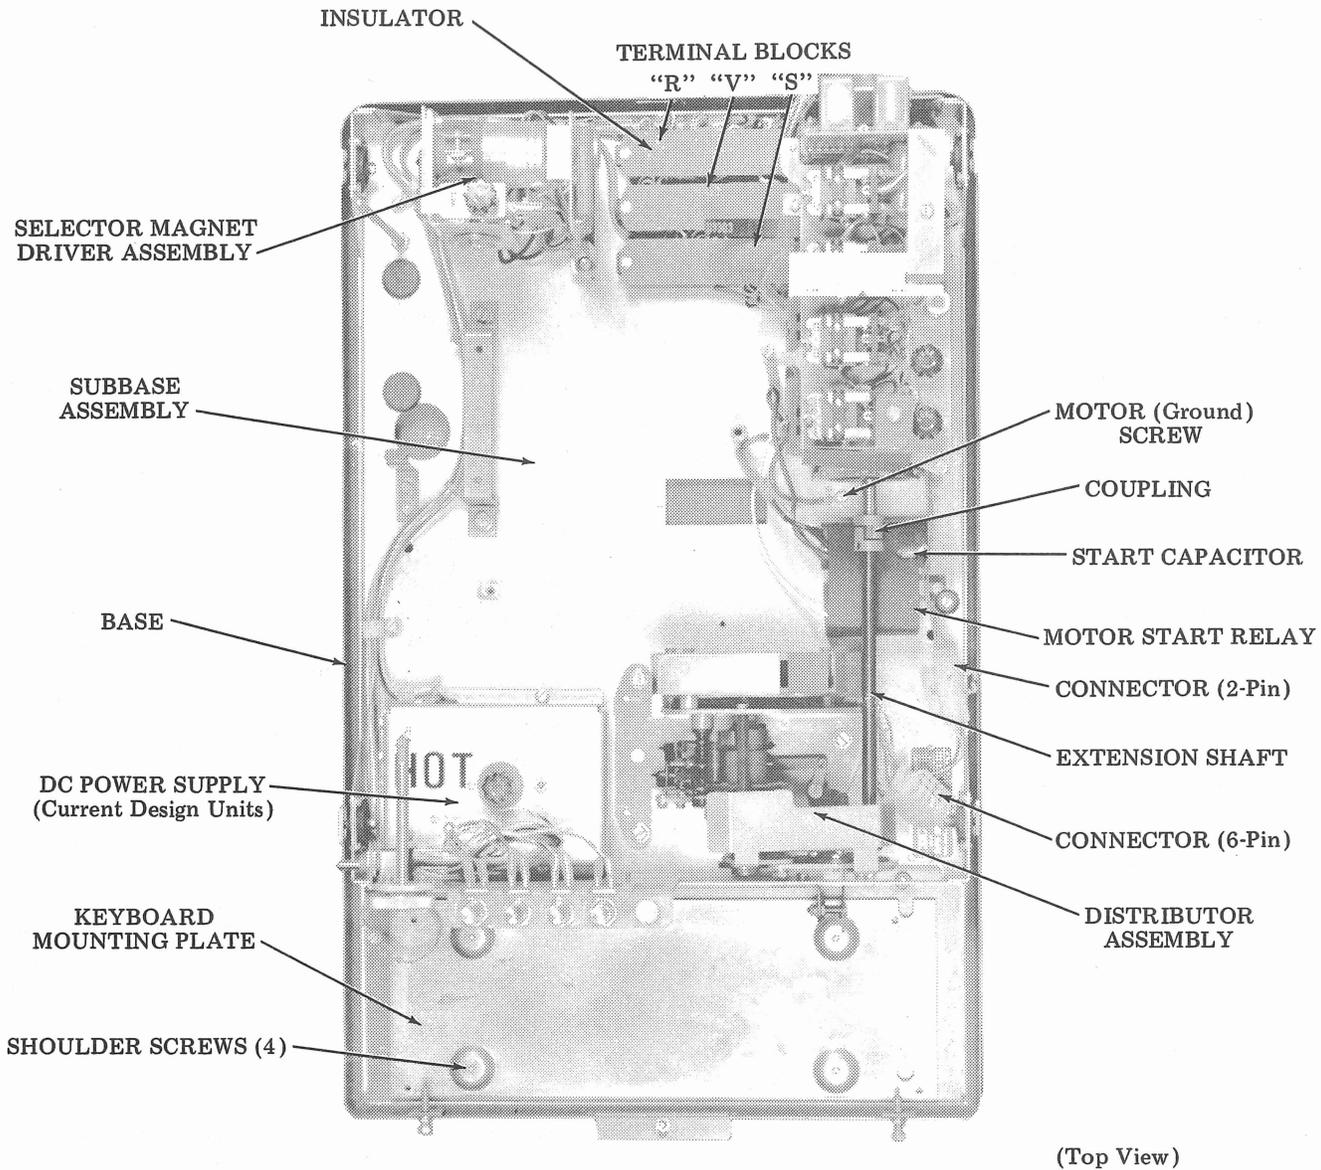

Figure 1 - 35 Edge Punched Card Typing Reperforator Set Base
1.01 This section contains instructions for the disassembly and reassembly of the basic mechanisms, subassemblies, and some parts mounted on the 35 Edge Punched Card Typing Reperforator Set Base (2A BASE — Figure 1). It is reissued to add engineering changes, replace the photographs with photographs of current design units, and rearrange the text. Since this is a general revision, marginal arrows used to indicate changes and additions are omitted.
2.04 Remove the two screws and lock-washers securing the insulator (TP151412) to the "R" terminal block (Figure 1) and remove the insulator.
2.06 To remove the keyboard mounting plate (TP309280), remove the four shoulder screws (TP125178) underneath the base which mount the plate to the base (Figure 1). Remove the plate.
2.07 The selector magnet driver assembly is located in the left rear corner of the base (Figures 1 and 3), and is secured to the subbase with two screws and lockwashers. To remove the selector magnet driver assembly, proceed as follows:
- (a) Remove the 6-pin connector (TP182649) from the 6-pin receptacle on early design units, or the 2-pin connector (TP312813) from the 2-pin receptacle (TP312814) on current design units (part of the distributor cable — Figures 1 and 2).
- (c) Loosen the setscrew securing the drive shaft (TP309307) to the coupling (TP309302 — Figure 1).